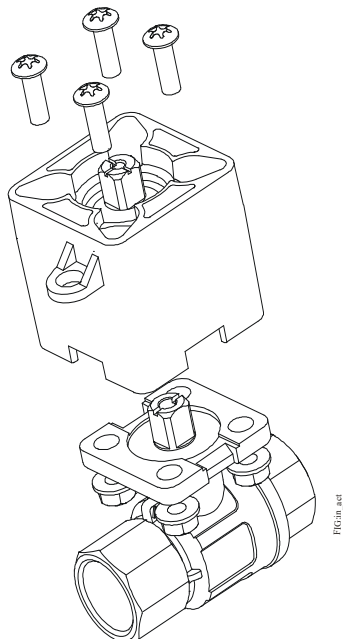

Figure 18: Installing the Barrier
3. Mount the thermal barrier onto the valve using the four included M5x16 mm machine screws and four M5 flange nuts. Tighten the screws to a recommended torque of 21 to 25 lb·in. (2.4 to 2.8 N·m) (Figure 18)